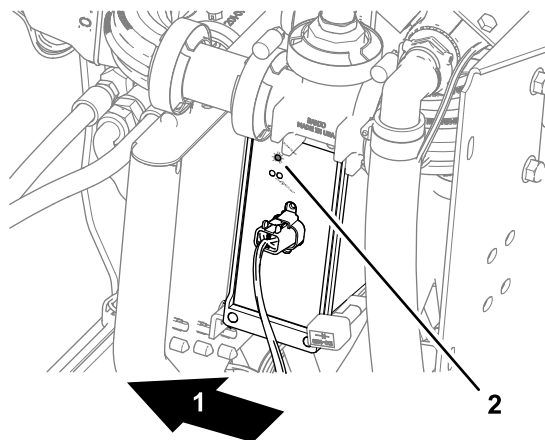

Figure 234
- Automatic section controller—the STATUS indicator illuminates (Figure 234)